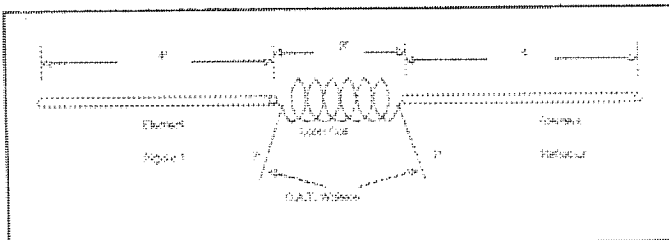

Figure 1
**Approximate reflector inductor value:** Traditional Yagis tune the reflector to about .95 of the beam's resonant frequency, or about 27 MHz. This proved to be too long for the minibeam. See Figure 1 for the reflector layout. Choose a coil to resonate with the loading inductor in place at
about 28.1 MHz. The resonant frequency can be lowered with the position of the capacitance loading wires. There are various formulas or charts, as well as computer programs, to find the values. You can also figure a 4' base-loaded vertical and double the inductance for a dipole element. I use ELNEC or ON4UN's software quite often to find the right values. The exact value of the inductance will vary with the length of the element and its diameter. Use two 7" pieces of #10 soft copper wire for capacitance loading, as shown in Figure 1.